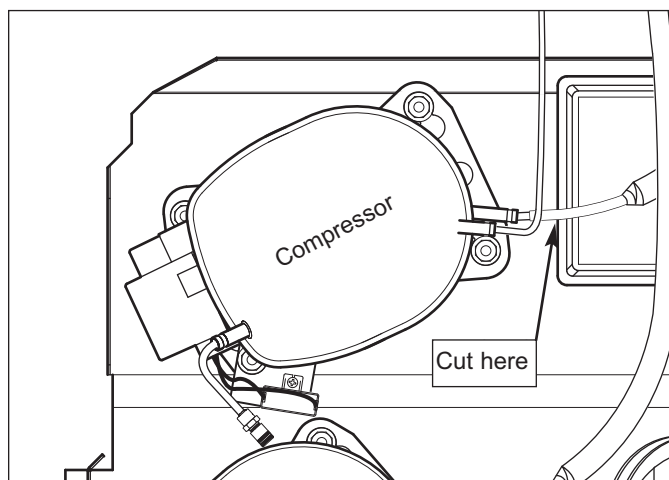

Figure 7-54. Cut Suction line at compressor
2. Cut suction line approximately two inches from compressor. (See Figure 7-54)